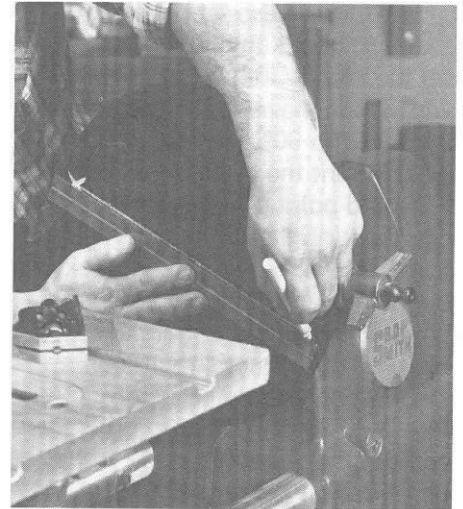

Figure 2. Marking the high spot.
d. Mark the high spot with an 'X' using a light-colored grease pencil. Draw a line from the high spot through the center to the opposite side. (See Figure 2.) Remove the disc from the spindle and set it aside.